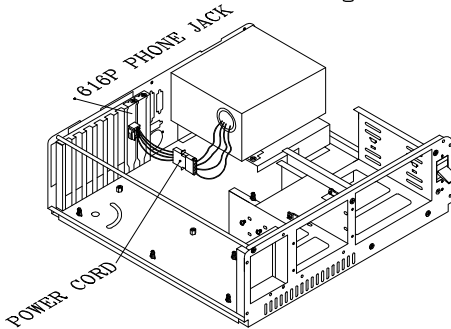

Fig 3
- 3.Connect the DB-9 connector to the computer's serial port of COM1(or COM2) Connect the 4P phone jack connector to the I/O bracket. see **Fig3**.